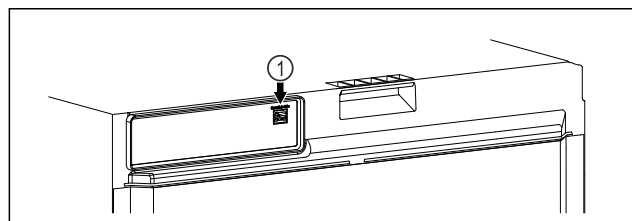

Fig. 116
- ❑ SmartModule Fig. 116 (1) has been inserted.